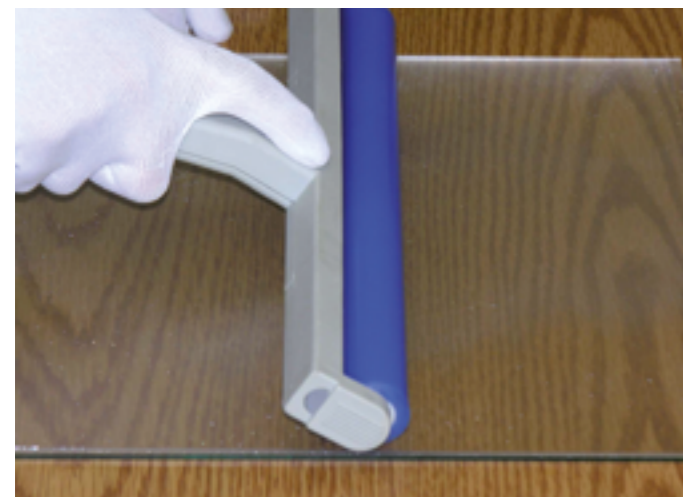

FIG 11 • Cleaning SentryGlas® with contact roller
- Contact tacky roller (e.g. Tek Nek or SDI (see Figure 11). Ensure that when purchasing the tacky rollers and cleaning pads that they are silicone free.